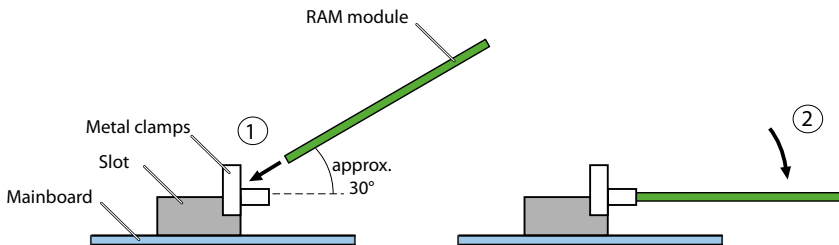

Fig. 84 Changing the RAM module
4. Place the RAM module at a slight angle into the slot (see Fig. 84).